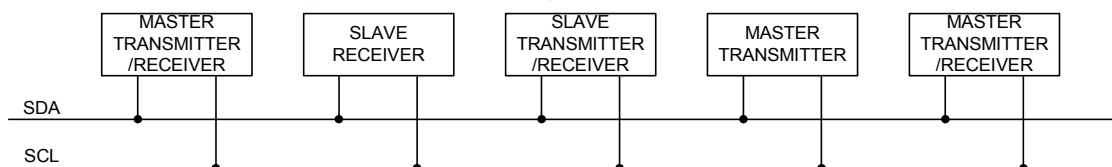
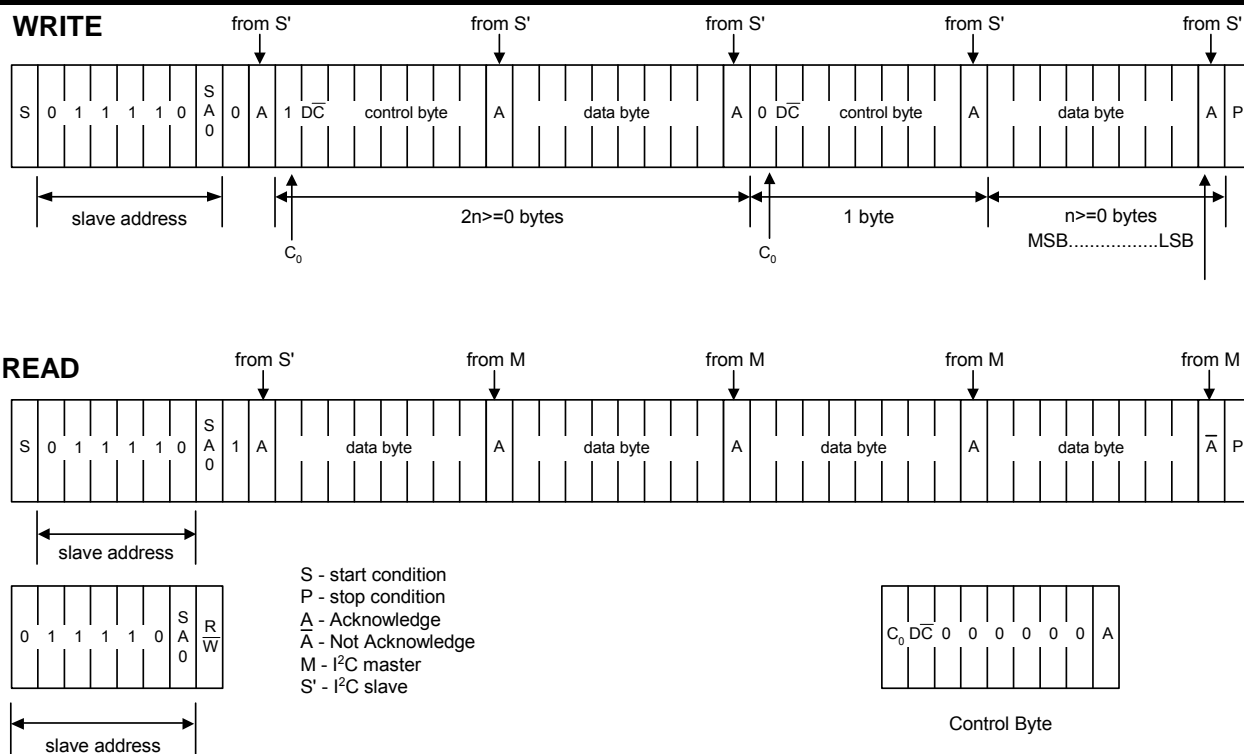

Figure. 7 System configuration
Figure 9 I²C Protocol
The SH1122 supports both read and write access. The R/\bar{W} bit is part of the slave address. Before any data is transmitted on the I²C-bus, the device that should respond is addressed first. Two 7-bit slave addresses (0111100 and 0111101) are reserved for the SH1122. The least significant bit of the slave address is set by connecting the input SA0 to either logic 0(VSS) or 1 (VDD1). The I²C-bus protocol is illustrated in Fig.9. The sequence is initiated with a START condition (S) from the I²C-bus master that is followed by the slave address. All slaves with the corresponding address acknowledge in parallel, all the others will ignore the I²C-bus transfer. After acknowledgement, one or more command words follow which define the status of the addressed slaves. A command word consists of a control byte, which defines Co and D/\bar{C} (note1), plus a data byte (see Fig.7). The last control byte is tagged with a cleared most significant bit, the continuation bit Co. After a control byte with a cleared Co-bit, only data bytes will follow. The state of the D/\bar{C} -bit defines whether the data-byte is interpreted as a command or as RAM-data. The control and data bytes are also acknowledged by all addressed slaves on the bus. After the last control byte, depending on the D/\bar{C} bit setting, either a series of display data bytes or command data bytes may follow. If the D/\bar{C} bit was set to '1', these display bytes are stored in the display RAM at the address specified by the data pointer. The data pointer is automatically updated and the data is directed to the intended SH1122 device. If the D/\bar{C} bit of the last control byte was set to '0', these command bytes will be decoded and the setting of the device will be changed according to the received commands. The acknowledgement after each byte is made only by the addressed slave. At the end of the transmission the I²C-bus master issues a stop condition (P). If the R/\bar{W} bit is set to one in the slave-address, the chip will output data immediately after the slave-address according to the D/\bar{C} bit, which was sent during the last write access. If no acknowledge is generated by the master after a byte, the driver stops transferring data to the master.